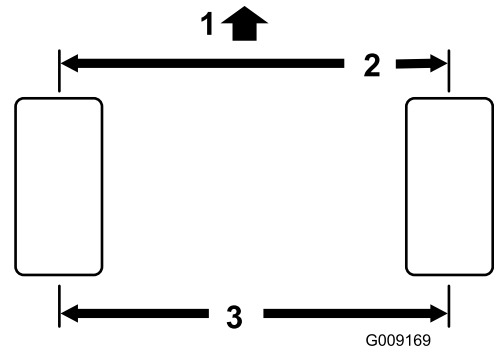

Figure 109
2. Measure the center-to-center distance (at axle height) at the front and rear of the steering tires (Figure 109).